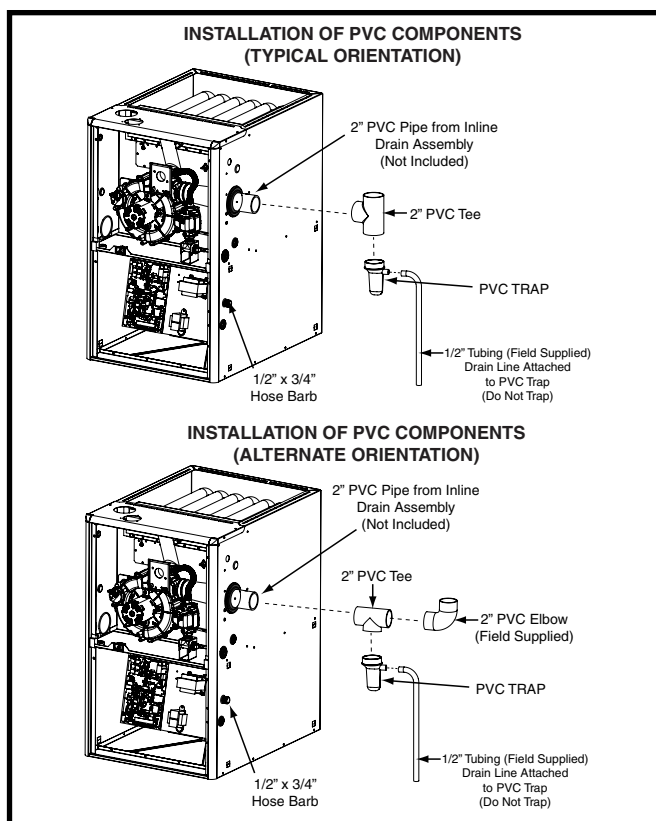

Figure 15. PVC Components
- The 2" PVC components shown in Figure 15 are not provided in the extra parts bag. However the PVC Trap (P/N 664659) can be purchased thru your local distributor.
The 2" PVC tee, reducer, PVC Trap and 1/2" X 1/2" hose barb are used when the inducer is rotated to vent out thru the left or right side of the furnace cabinet. See Figure 15 (page 16).
1. Install the PVC Tee vertically on the 2" vent pipe that is extending out the side of the cabinet. Permanently bond them together using appropriate primer and cement. Refer to the typical orientation shown in Figure 15.
1. Install the 2" PVC Tee horizontally on the 2" vent pipe that is extending out the side of the cabinet. Permanently bond them together using appropriate primer and cement. Refer to the alternate orientation shown in Figure 15.